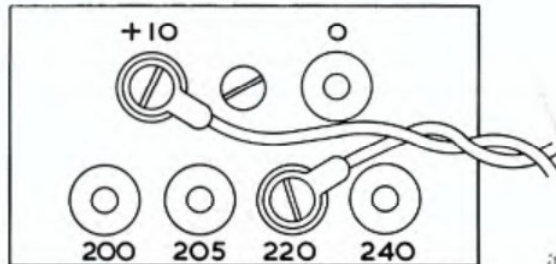
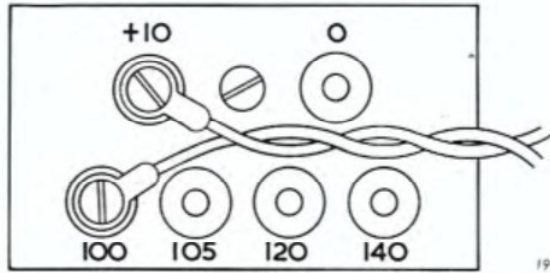

Fig. 5.3 Tapping Panel Connections for 230 Volts.
Fig. 5.4 Tapping Panel Connections for 110 Volts.
Reverse the reference plate on the main tapping panel so as to reveal the side marked with the voltages appropriate to the new range as shown in Fig. 5.3 and Fig. 5.4.
- (b) *To change from one intermediate voltage to another* within the selected range, e.g. from 240 to 230 volts, do not take off the case, but remove the small cover plate in the right-hand case handle recess to expose the mains tapping panel. Reposition the two screw secured fly-leads to the tapping points that give a combination to suit the supply voltage. For example, take the leads to the tapping points marked '220' and '+10' for 230-volt working. The tapping panel is illustrated in Fig. 5.3 and Fig. 5.4.